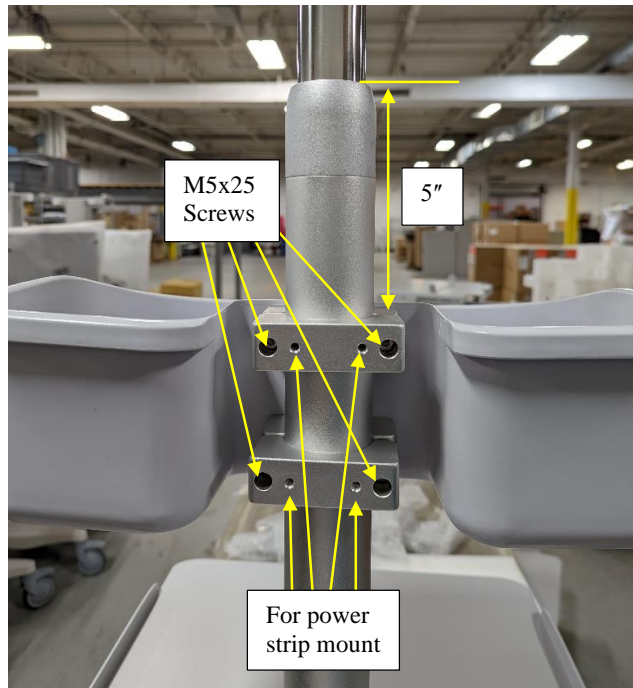

Figure 9
- 1.4.5. Attach the basket (10355-0005-03), using clamps and four M5 x 25 screws, 5" from top lip of pole as shown in Figure 9. Ensure the basket is facing the front of the cart.
- 1.4.6. Attach power strip mount (10355-0005-27) to basket clamps with four M5 x 12 screws (10355-0005-17). See Figure 9 and Figure 10 for reference.